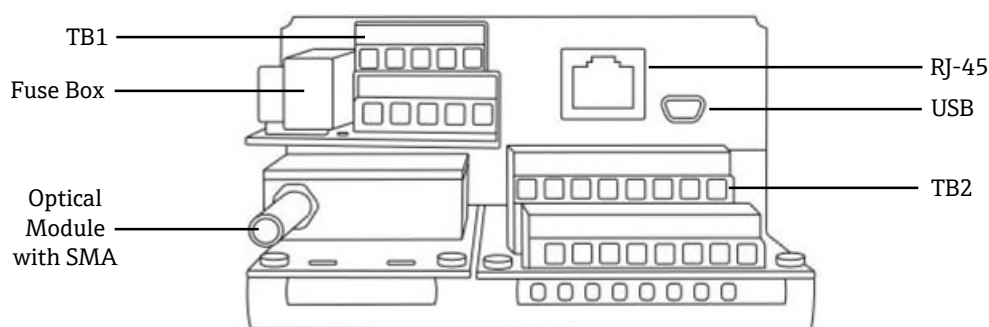

Figure 9. Analyzer connections
The fiber optic oxygen cable to the SMA connector, located at the bottom of the OXY5500, will be installed at the factory. Additional connectors are available as shown in Figure 9.
5. Connect the 4-20 mA current loop IOUT1/IOUT2 output wires to terminals 6 and 8, as shown in Figure 9 and Table 7.